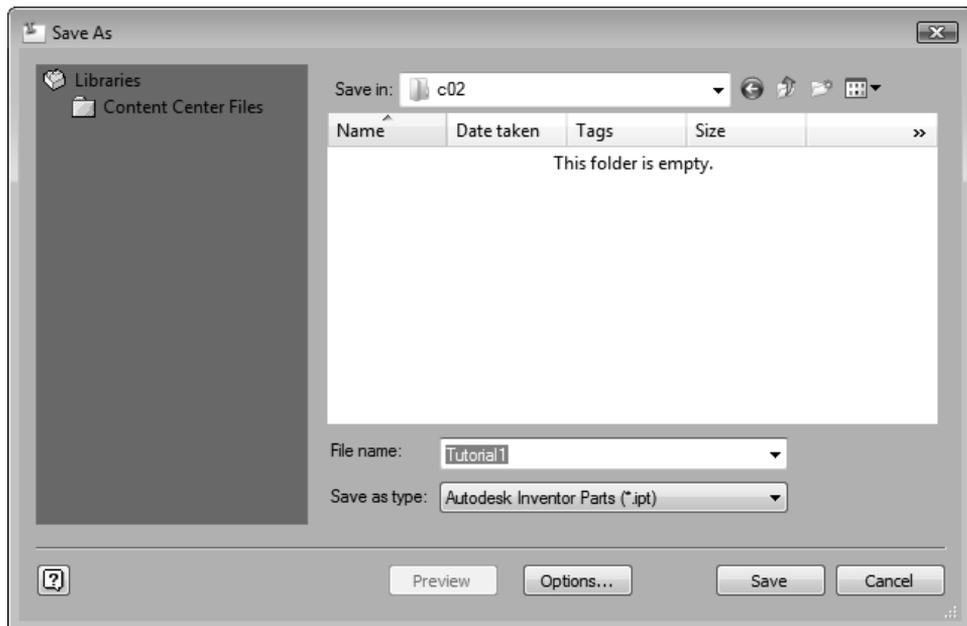

Figure 2-49 The *Save As* dialog box
4. Enter **Tutorial1** as the file name in the **File name** edit box, refer to Figure 2-49, and then choose the **Save** button from the **Save As** dialog box to save the sketch.